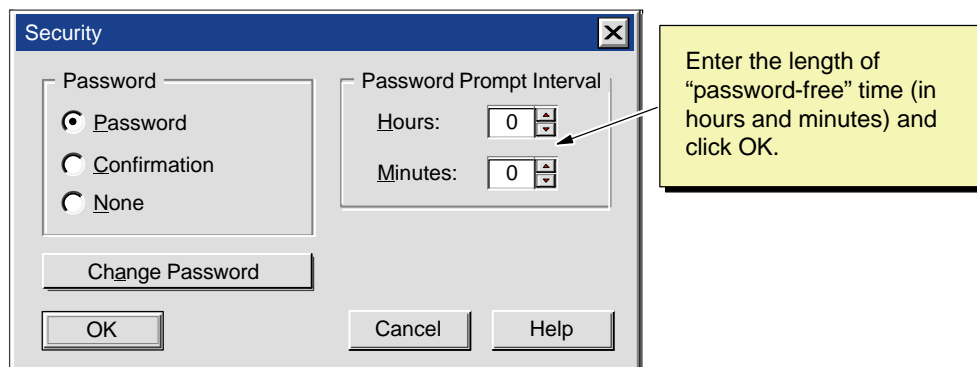

Figure 4-23 Configuring the Password Validity
3. In the Security dialog box, enter the length of time for the password to be valid. See Figure 4-23.